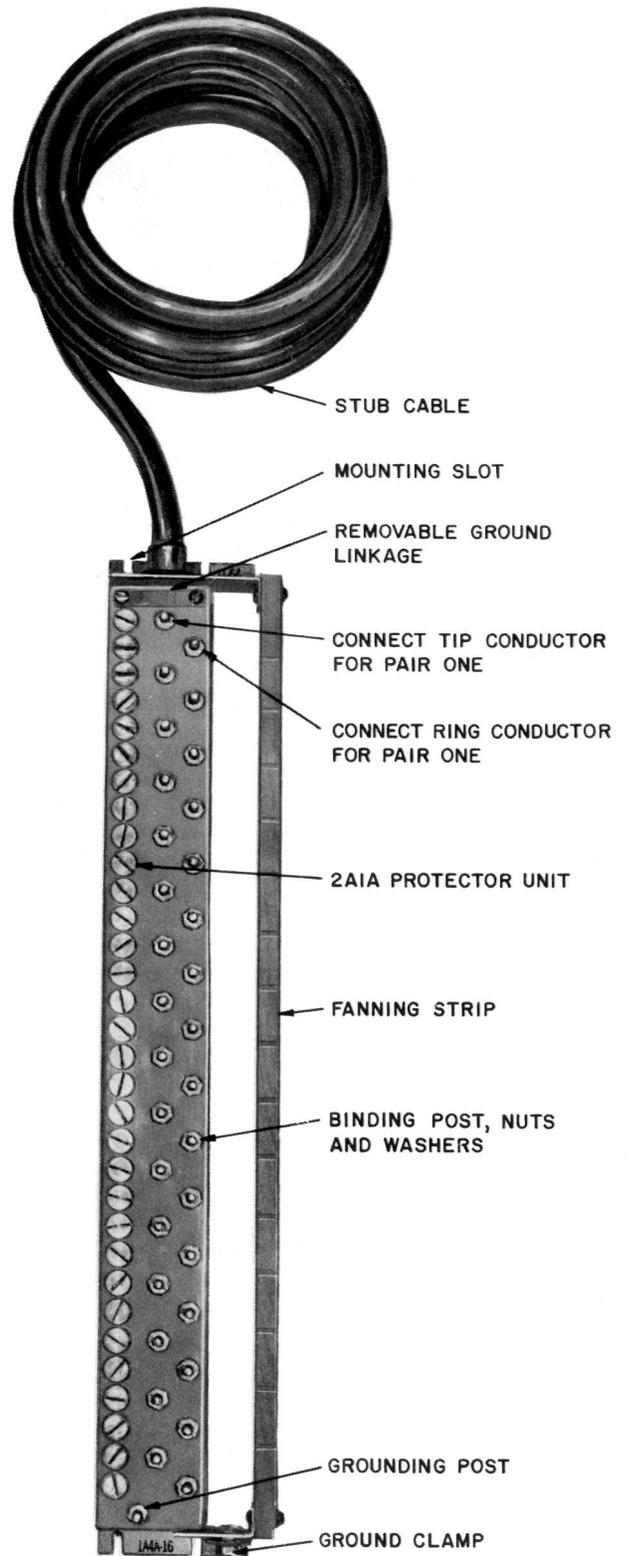

Fig. 16—1A4A-16 Terminal Block
3.21 The 1A4A-type terminal blocks (Fig. 16) are gastight cast-resin blocks equipped with